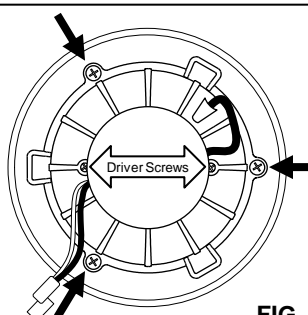

FIG. 5
- Remove the DRIVER SCREWS and separate the old LED DRIVER from the CAST HEAT SINK. (FIG. 5)